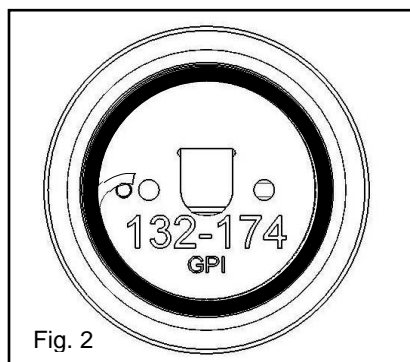

Fig. 2
3. Pre-Installation (Figure 2):
- c. Ensure O-ring is properly seated within O-ring groove as shown in Figure 2.
- d. **Important:** Verify proper operational frequency, as labeled. (Figure 2).